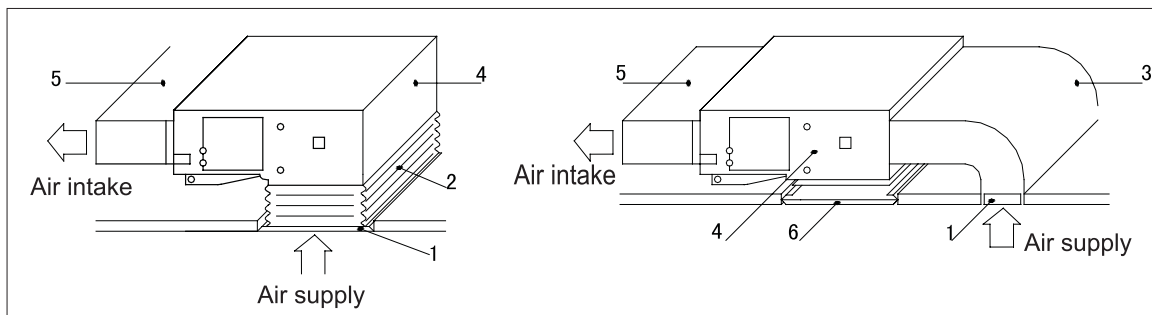

Figure 1-1-15
- Rivet the return air duct to the return air inlet of indoor unit and connect another end to return air window. For free adjustment of the height, you may fabricate a section of canvas air duct and reinforce with 8# iron wire in folded form. You may select the installation methods in overall consideration of the building and maintenance conditions, as shown in Fig. 1-1-15.